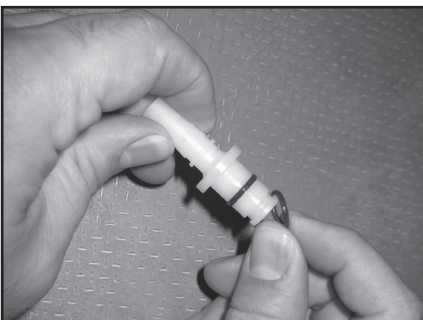

Figure 10
10. Carefully remove and replace (2) o-rings. Lubricate both o-rings with petroleum jelly. **(Figure 10)**